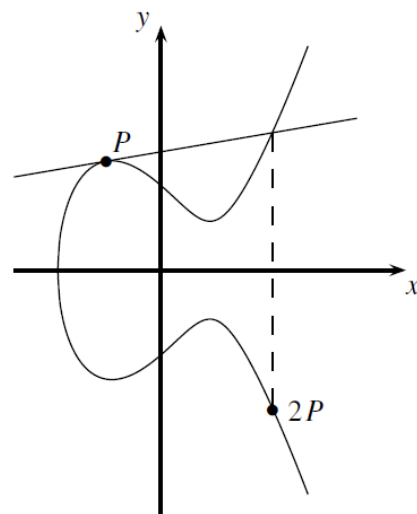

Fig 2.
- **Point doubling $P+P$:** This is the case where we compute $P+Q$ but $P=Q$. Hence, we can write $R = P+P = 2P$. We need a slightly different construction here. We draw the tangent line through P and obtain a second point of intersection between this line and the elliptic curve. We mirror the point of the second intersection along the x -axis. This mirrored point is the result R of the doubling. Figure 2. shows the doubling of a point on an elliptic curve over the real numbers.